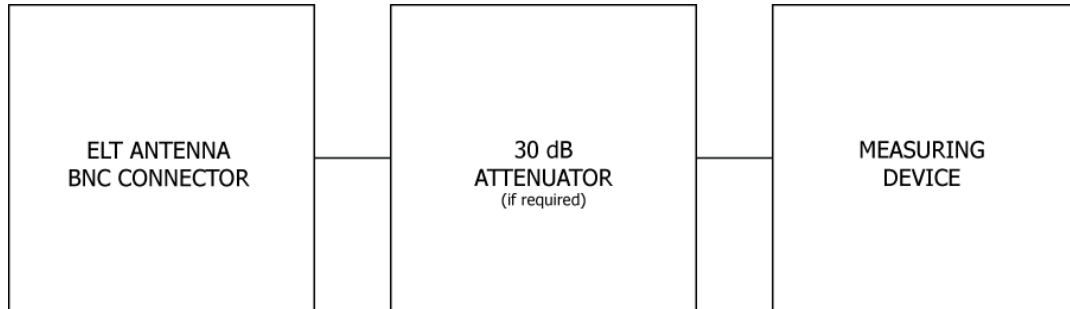

Figure 7 Performance Test Setup
- 3) For final airworthiness verification, ELT's own battery pack as the power source for these measurements should be used. An alternate power source should be used where lengthy servicing, other than the performance tests, is anticipated. Expired battery packs should be used if the airworthiness performance of the battery pack in the system is not required. The battery packs are capable of at least fifty (50) hours of operation at the end of six years useful life.
- 4) To prevent damage to the measurement equipment from the 5W, 406 MHz burst, install an RF attenuator (rated 50 ohm) between the ELT antenna output and the measurement equipment. Typical attenuation is 30 dB, 50 ohm, and rated at 5 watts for 1/2-second duration (see Figure 7).
- 1) Connect the measuring device as specified in Figure 7 Performance Test Setup on page 31.
- 1) Connect the measuring device, as specified in Figure 7 Performance Test Setup on page 31.